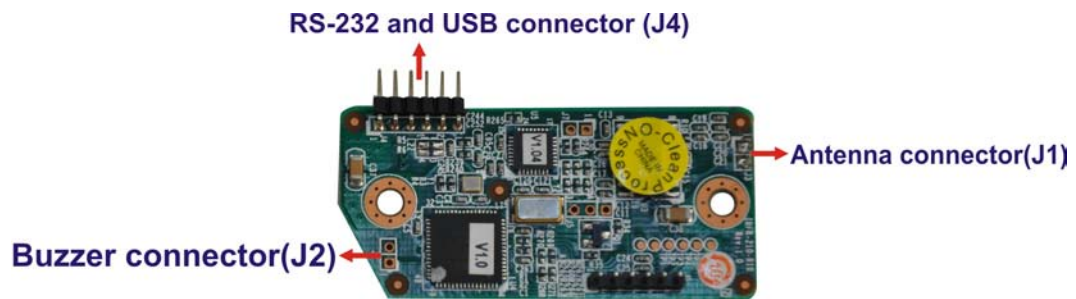

Figure 2-1: Connector and Jumper Locations
Figure 2-1 shows the on-board peripheral connectors and rear panel LEDs.
- CN Location: See **Figure 2-1**